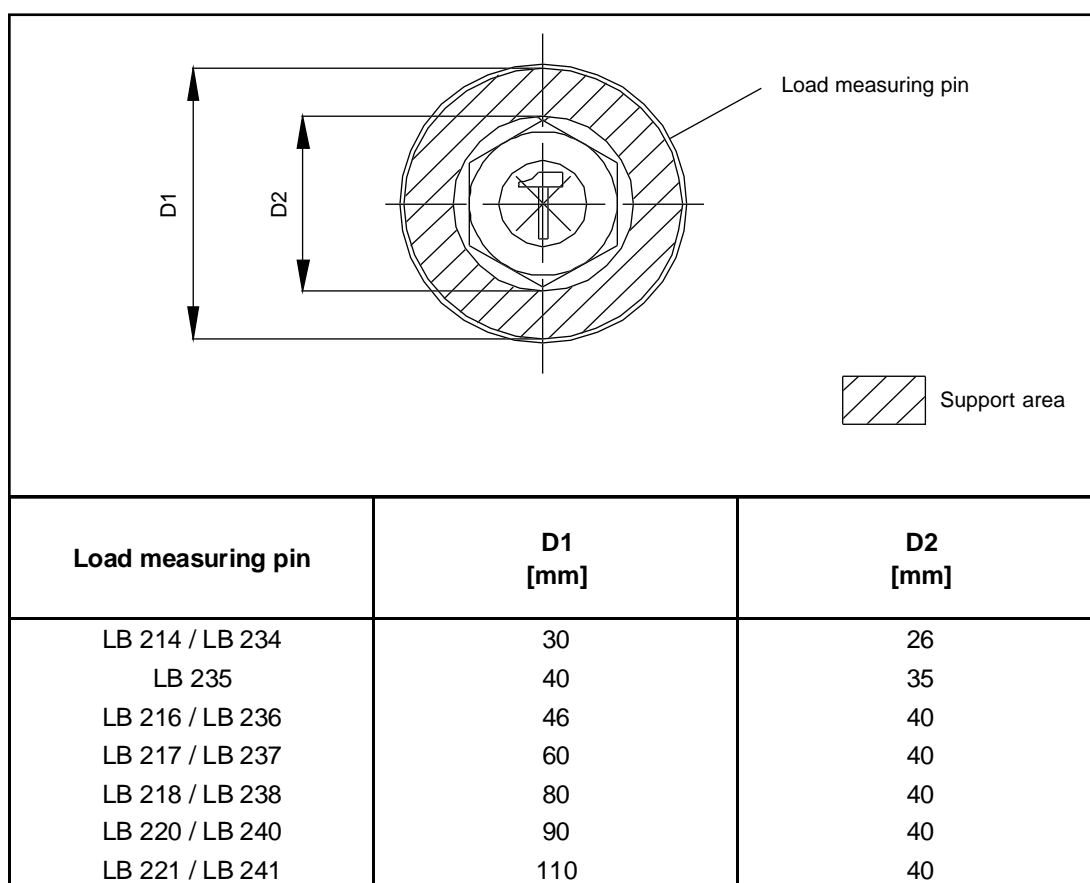

Fig. 4-8 : Support area on the end of the load measuring pin for a sleeve tube or a muff.
- For small size load measuring pins without extraction screw threads use a sleeve tube or a muff made in a metal of lesser stiffness than that of the pin (e.g. bronze, brass). Place the tube against the pin end opposite the electrical connector, taking care not to touch the hexagonal cover (see figure 4-8). Now hit the tube with a plastified hammer (shock absorption) to push the load measuring pin out of its seat. It is also possible to use for this operation a wooden cylinder.